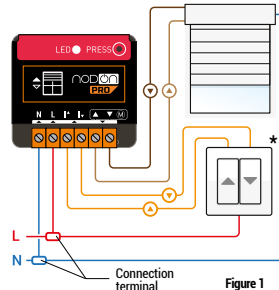

Figure 1
- Câblez le module selon le schéma en figure 1.
- 3 Wire the Relay Switch according to the diagram figure 1.